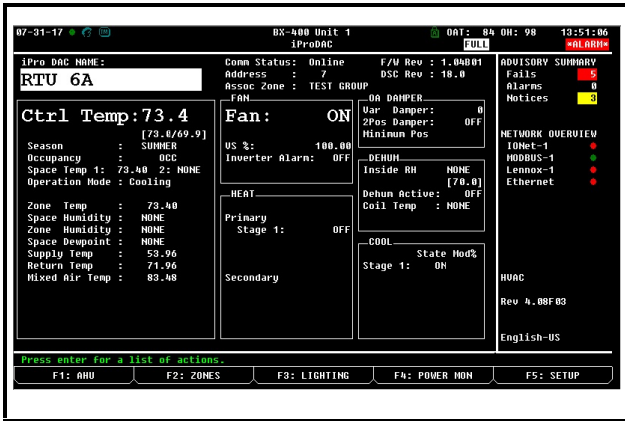

Figure 7-7 - iProDAC Status Screen - Press F5
2. Select iProDAC from the list - the iProDAC Status screen will open (Figure 7-7).